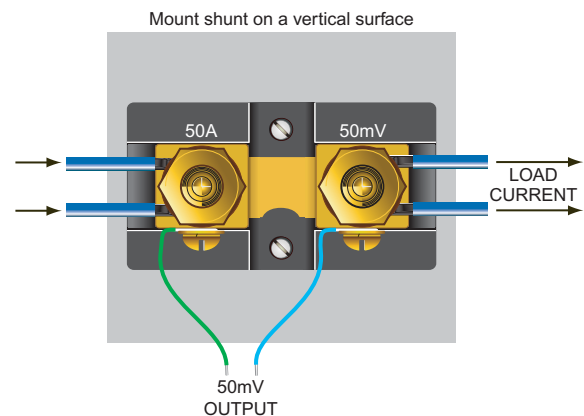

Figure 1. Typical installation
2. Mounting Considerations: All shunts should be mounted with their resistance blades in a vertical position to allow for natural convection cooling (see Figure 1). Forced-air cooling must be provided when vertical mounting is impractical, or in installations where the shunt is installed in a confined location. The shunt's manganin blades must never be allowed to exceed +125°C; doing so will cause permanent damage to the shunt.
Whenever practical, all shunts should be connected in the grounded side (normally the 'chassis') of the dc supply. However, these shunts must be connected in the grounded side of the circuit when the dc supply exceeds 750 volts (the rated limit for the shunt's phenolic insulating base). When more than one wire is to be connected to each end of a shunt, the wires must be evenly distributed between both terminals (see Figure 1).